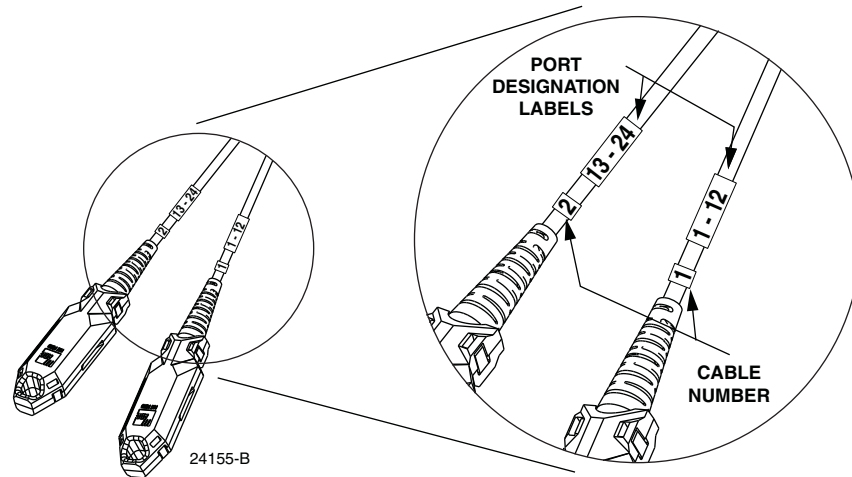

Figure 56. Cable Number and Optical Port Designation Labels
- c. Connect the microcable MPO connector to the appropriate equipment MPO connector. Labels are attached to each microcable, as shown in Figure 56, that identify the cable number and the range of optical ports associated with the MPO connector.